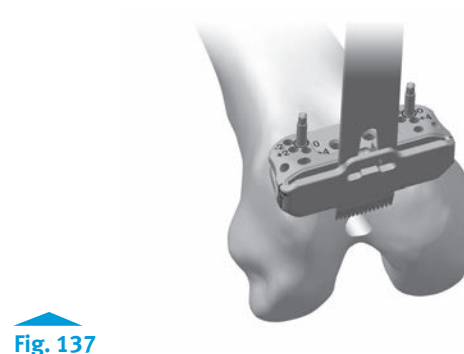

Fig. 137
- Cut the distal femur through the cutting slot in the cutting head, using a 1.27mm (0.050 in.) oscillating saw blade (**Fig. 137**).